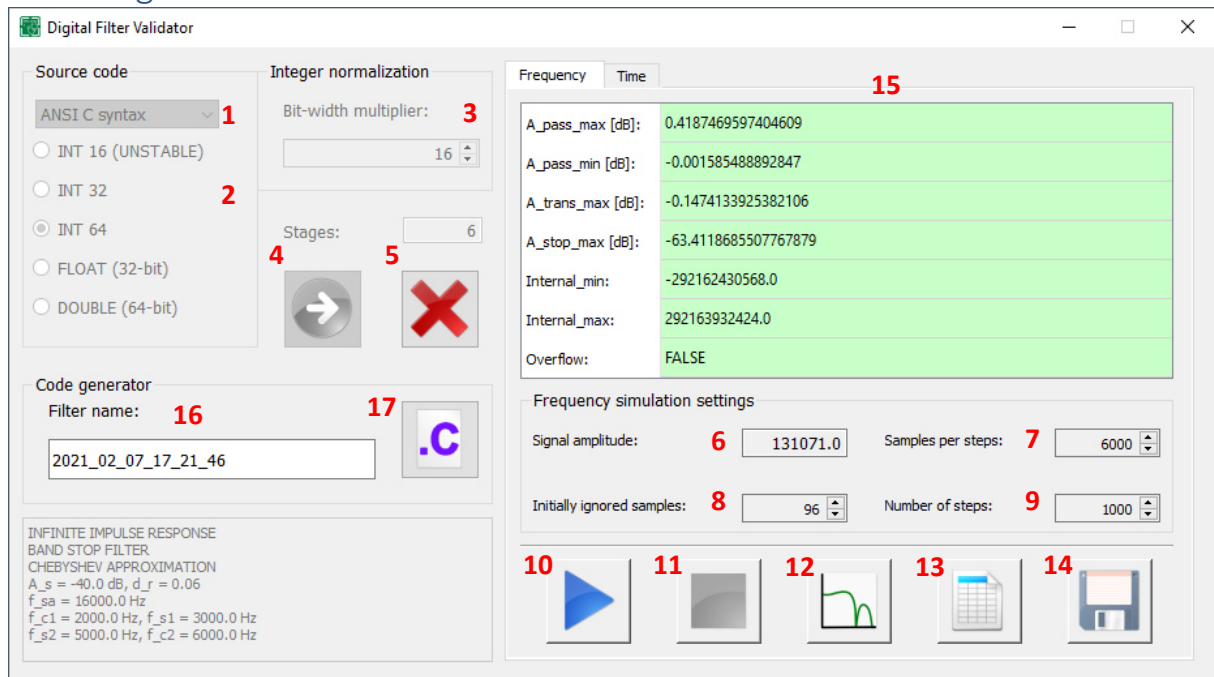

FIGURE 7: VALIDATOR WINDOW AFTER A FREQUENCY-BASED VALIDATION
Prior to the source code generation, the following parameters must be set (with the notations of Figure 7):
As follows the phrase “sample” is being used for a data point in time domain and the phrase “step” for a data point in frequency domain. For a frequency-based simulation the following parameters must be set (with the notations of the Figure 7):
Further elements of the validator GUI, with the notations of Figure 7 on Page 7:
After the validation of a filter, the source code can be generated. The relevant elements of the validator GUI – with the notations of Figure 7 on Page 7 – are the following:
- FILTER_NAME: element [16] of Figure 7 on Page 7